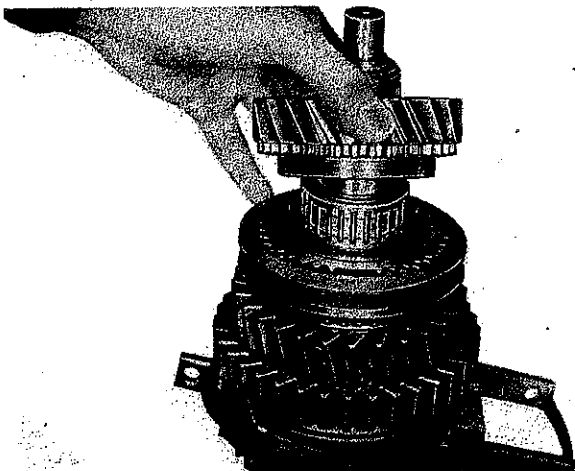

Fig. 34
15. Position second blocking ring (402) with teeth up. Slide needle cage (414) and third gear wheel (413) over main shaft (Fig. 34).